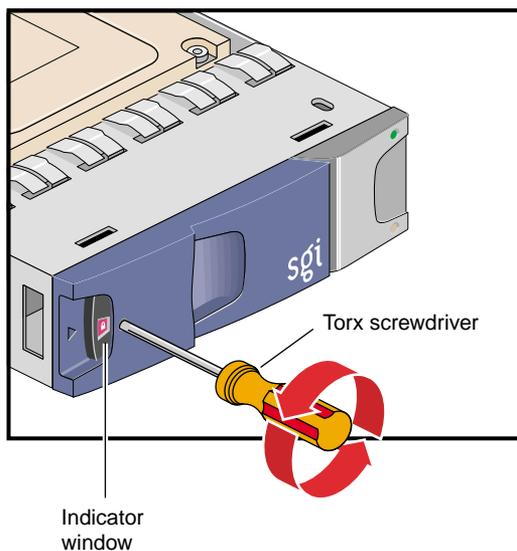

Figure 14-20 Unlocking Disk Drive Module
3. If the drive module is locked, insert the Torx screwdriver into the anti-tamper lock and turn it 90 degrees counterclockwise. The indicator in the drive carrier module turns black when the drive is unlocked. See Figure 14-20.